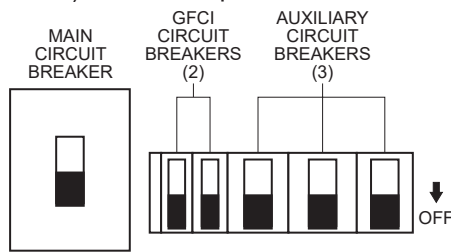

Figure 63. Main, Auxiliary, And GFCI Circuit Breakers (OFF)
2. Place the **main, auxiliary, and GFCI** circuit breakers (Figure 63) in the **OFF** position.
2. Place the **main, auxiliary, and GFCI circuit breakers** in the **OFF** position as shown in Figure 63.